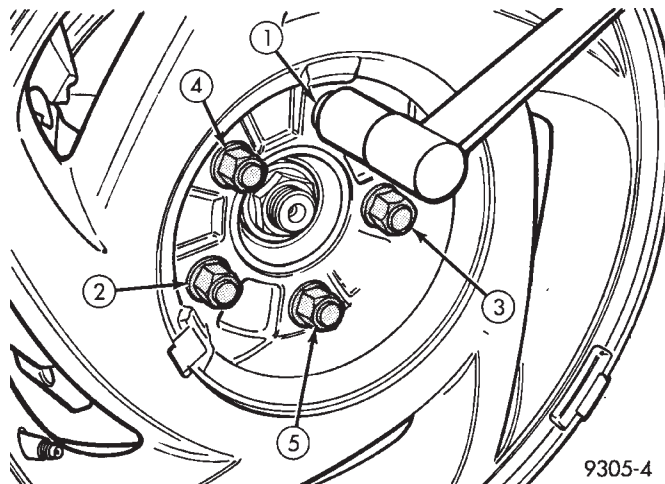

Fig. 17 Tightening Wheel Nuts
(12) Install wheel and tire assembly on vehicle. Tighten the wheel mounting stud nuts in proper sequence (Fig. 17) until all nuts are torqued to half specification. Then repeat the tightening sequence to the full specified torque of 129 N•m (95 ft. lbs.).
(13) Lower vehicle to the ground.